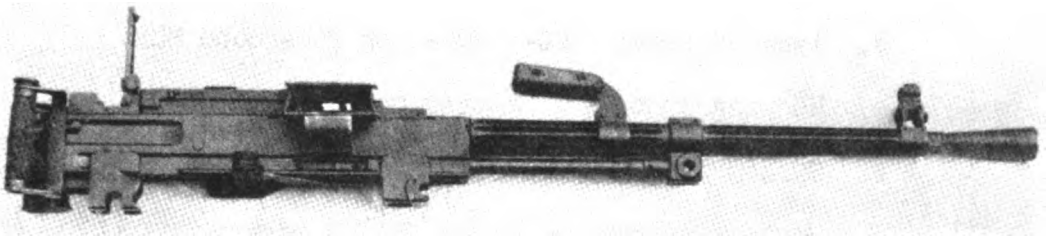

Figure 7
7. Identify The SGMB. (See fig. 7.)